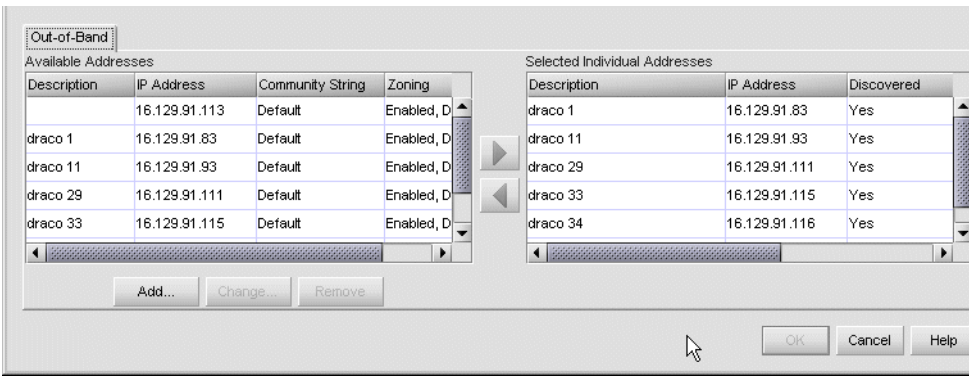

Figure 13: Discover Setup dialog box
1. At the HAFM application (Element manager or EWS main window), select the Setup option from the Discover menu. The Discover Setup dialog box displays (Figure 13).